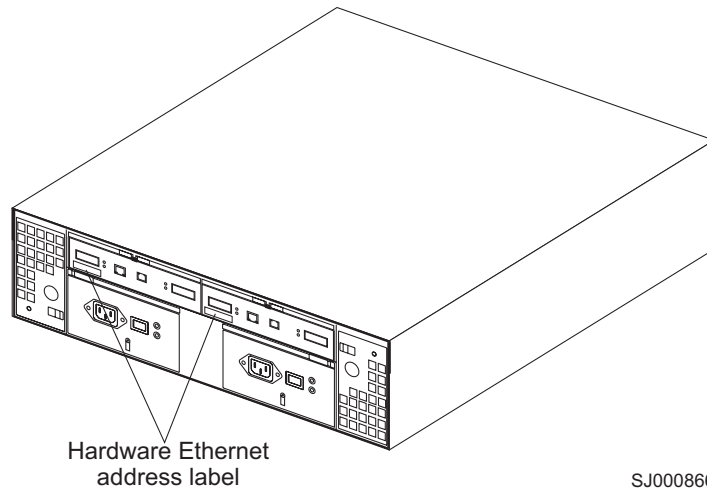

Figure 11. Locating the Ethernet MAC address (machine types 3542 [FAStT200], 1724 [DS4100], and 1722 [DS4300])
1. Locate the Ethernet MAC address at the back of the unit, under the controller fibre-channel host ports, as shown in Figure 11 on page 51. The number will be in the form xx.xx.xx.xx.xx.xx (for example, 00.a0.b8.20.00.d8).